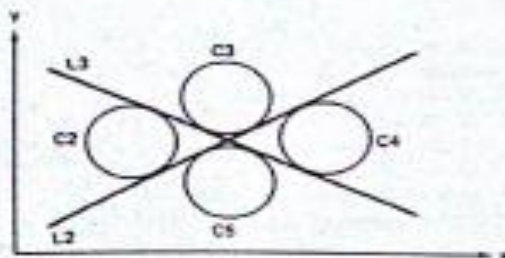

FIGURE A8.2
5. By two intersecting lines and the radius. See Figure A8.2.